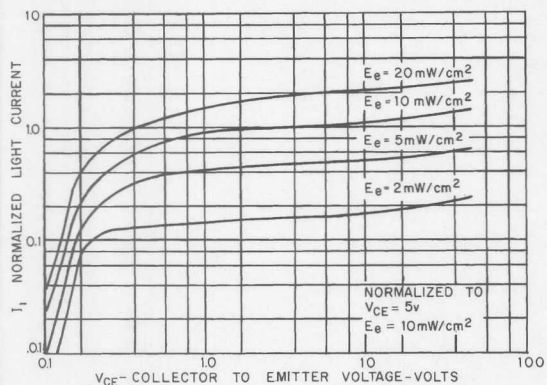
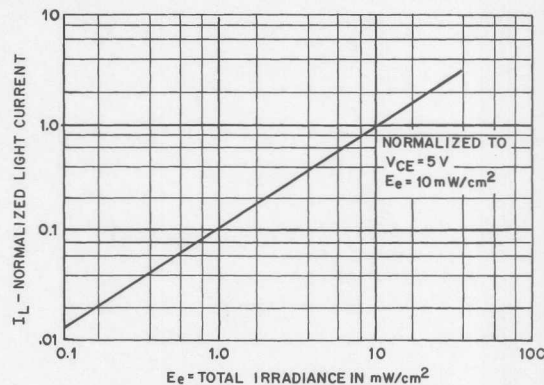

Fig. 1. Light Current vs. Collector to Emitter Voltage ST1062
Fig. 2. Normalized Light Current vs. Radiation ST1067
8. Figure 1 and figure 2 use light source of tungsten lamp at 2870°K color temperature. A GaAs source of 3.0 mW/cm^2 is approximately equivalent to a tungsten source, at 2870°K , of 10 mW/cm^2 .